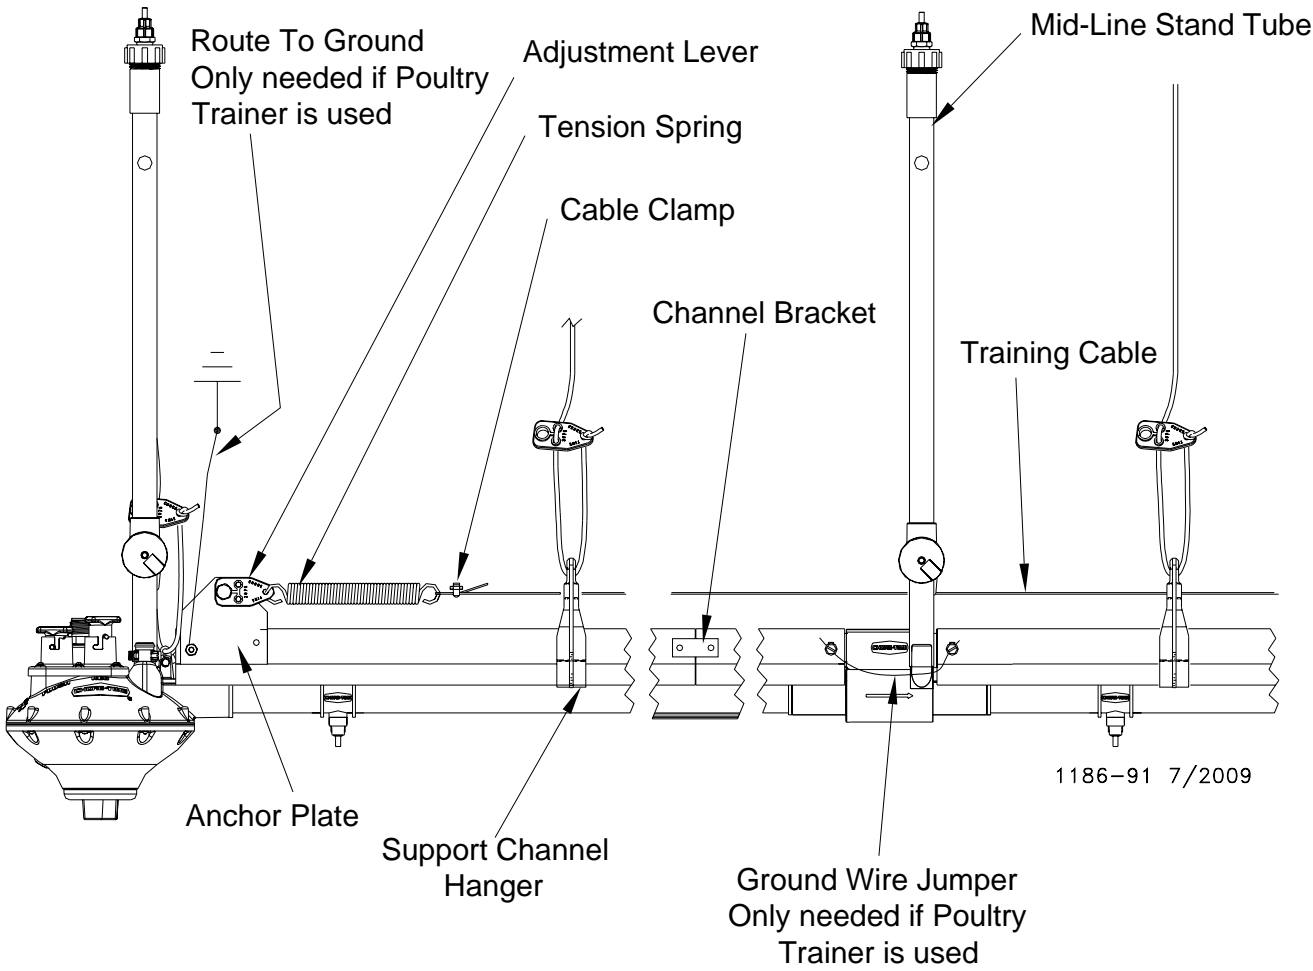

Figure 6. Anti-Roost Components
1. Make certain that an anchor plate with adjustment leveler is installed at the beginning and end of each anti-roost line. See **Figure 6**.
Note: Make sure that the support channel is attached to ground (to insure proper operation of the poultry trainer). See **Figure 6**.